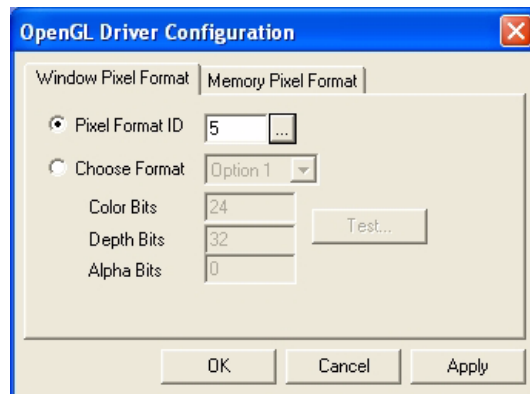

Figure 5-44: *OpenGL Driver Configuration* dialog box
4. In the OpenGL Driver Configuration dialog box (figure 5-44), select Pixel Format ID and enter this number.